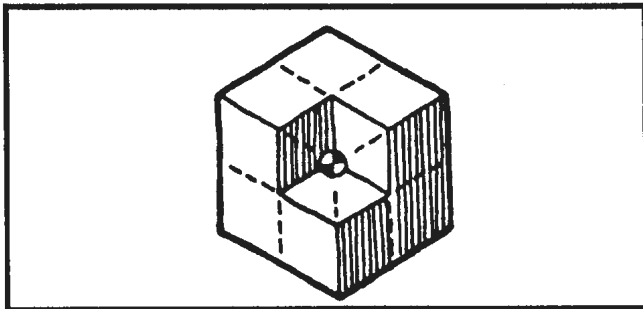

Figure 5-2. Center of Gravity of an Object
The center of gravity (CG) of any object is the single point about which the object is balanced in all directions. Every object has a CG. Refer to Figure 5-2. When the lift truck picks up a load, the lift truck and the load have a new combined CG. The stability of the lift truck is determined by the location of its CG, or, if the lift truck is loaded, the combined CG. Refer to Figure 5-3.